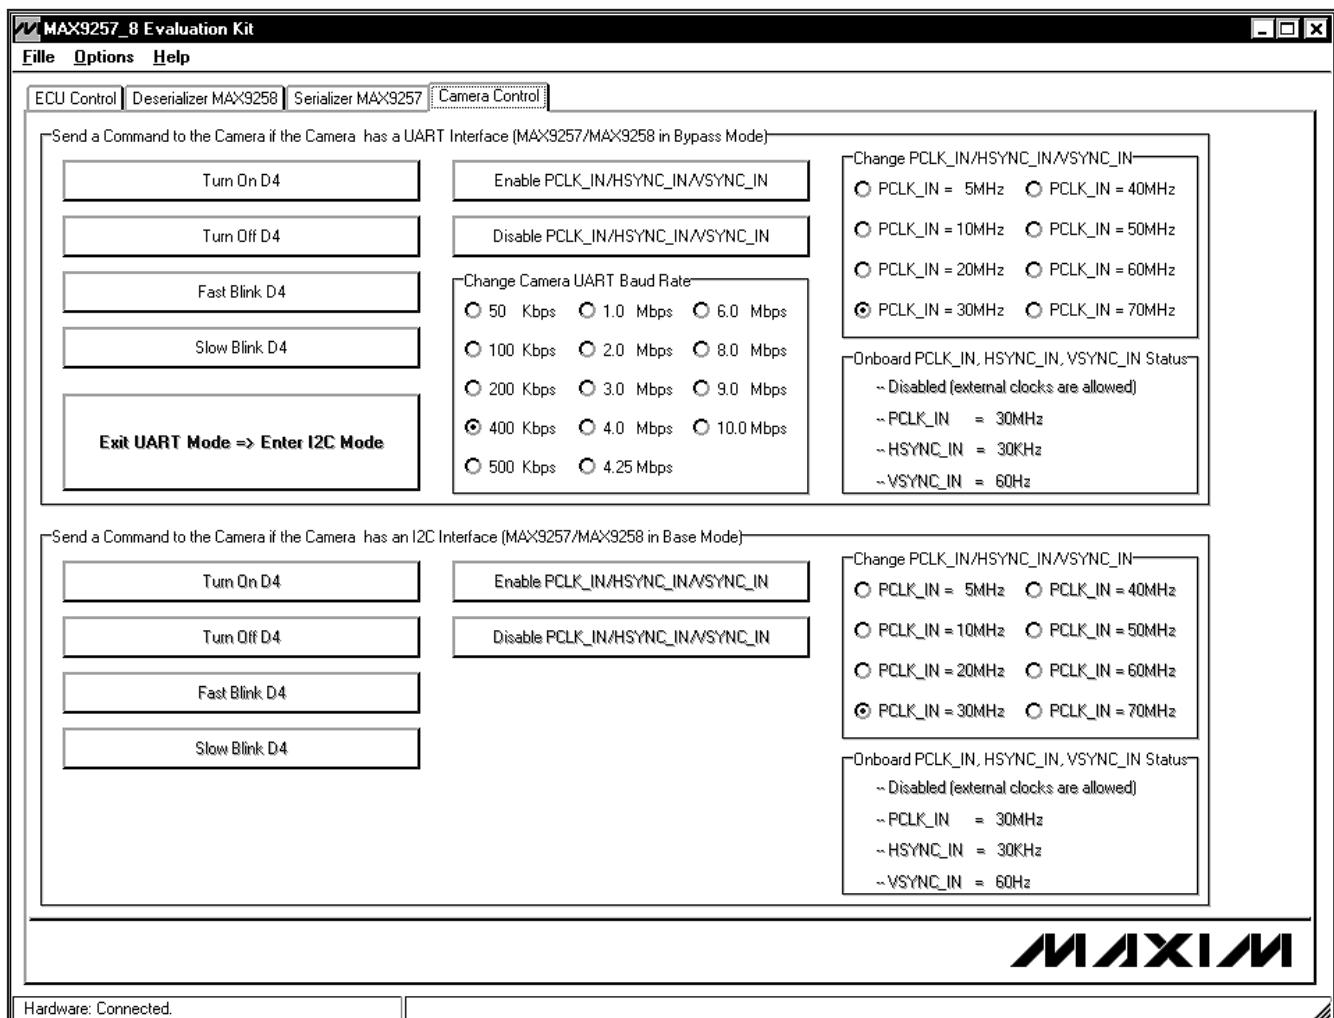

Figure 6. MAX9257/MAX9258 Evaluation Kit Software—Camera Control Tab
- 23) Click on the **Camera Control** tab to move to the **Camera Control** tab sheet (Figure 6).
On the **Camera Control** tab sheet (Figure 6), the ECU can communicate to the emulated camera during a control-channel session.
- 10) Navigate to the **Camera Control** tab sheet (Figure 6). Press the **Turn On D4**, **Turn Off D4**, **Fast Blink D4**, and **Slow Blink D4** buttons, respectively, to ver-
- 11) Navigate to the **Camera Control** tab sheet (Figure 6). On this tab sheet, all ECU commands to the camera follow this order in one control-channel session:
- 6) Navigate to the **Camera Control** tab sheet (Figure 6) and press the **Exit UART Mode => Enter I²C Mode** button (this button is available only when CTO is not equal to 0).